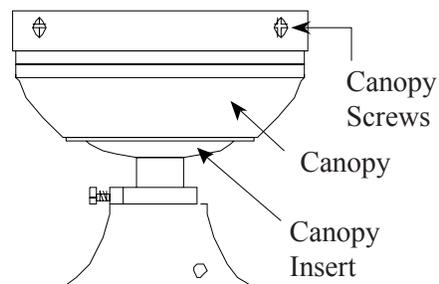

Figure 11
3. Insert and tighten the three screws that hold the canopy in place. See Figure 11.